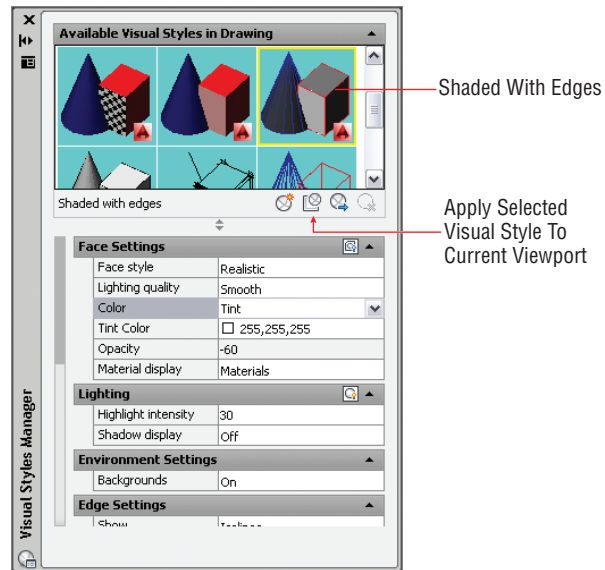
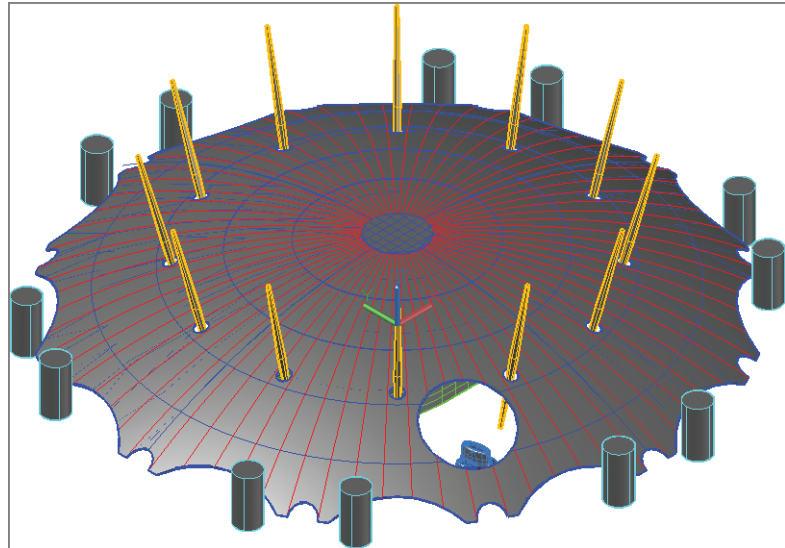

FIGURE 16.4 Visual Styles Manager
FIGURE 16.5 The altered Shaded With Edges visual style displays the model tinted with white.
5. Select the Visual Styles Manager icon in the Palettes panel to alter visual style settings. Scroll down the list of Available Visual Styles In Drawing, and select Shaded With Edges. Change Color to Tint in the Face Settings group (see Figure 16.4).
6. Select the Apply Selected Visual Style To Current Viewport button, as shown in Figure 16.4. Close the Visual Styles Manager. Figure 16.5 shows the result in the drawing canvas.